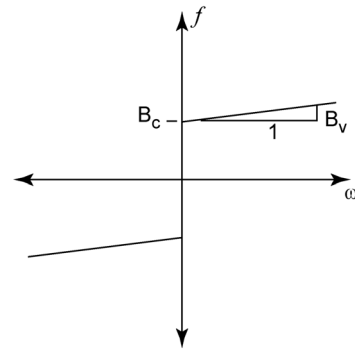

Figure 3: Friction versus angular velocity
where $\text{signum}(\omega)$ corresponds to the sign of ω and α is the time derivative of ω . In other words, coulomb friction is independent of the angular velocity, but the sign of B_c changes with ω . On the other hand, as the velocity increases, the torque due to viscous friction increases in proportion to ω . The viscous drag is caused by the lubrication in the bearings of the system and the aerodynamic drag caused by the load moving in air. The sum of the coulomb friction and the viscous friction as a function of rotational velocity is depicted in Figure 3.
10. Once this is complete, two plots are shown in the CVI program displaying the data. Determine whether the data shown is consistent with your expectations. One plot should resemble Figure 3 above and the other should show a linear relationship between V/ω and I/ω . Ask your TA if you are unsure of your results.
15. Using Excel or Matlab, create a figure like Figure 3 above that shows the relationship between motor torque and motor speed. Based on this plot and Equation 7 determine B_c and B_v and record these values in the space provided.